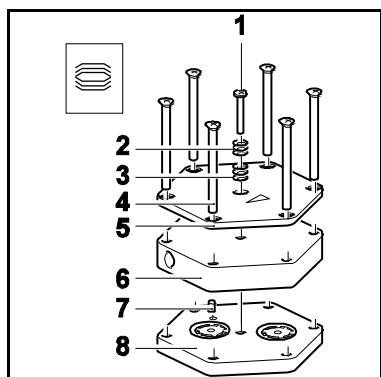

Fig. 24: Refitting pump head
1. For two-headed pumps: On the pneumatic head connection (3), loosen the union nuts (2) by hand. Then slightly loosen the angle-fitting (1) in the pump head (4) by turning it counter-clockwise, so that the connecting tube can be pulled out.
2. Mark the position of top plate (fig. 24/5), head plate (fig. 24/6), intermediate plate (fig. 24/8) and adapter relatively to each other by a drawing line (for two-headed pumps: at both pump heads) with a felt-tip pen (1). This helps to avoid incorrect assembly later.
3. Loosen the outer screws (5) on the pump head/pump heads.
2. Place the intermediate plate (8) with valve plates/sealings on the adapter in accordance with the felt-tip pen marking.
3. Place the head plate (6) on the intermediate plate (8) in the position indicated by the guide pin (7).
4. Place the top plate (5) on the head plate (6) in accordance with the felt-tip pen marking.
5. Gently tighten screws (4) in diagonal order.
6. Insert screw(s) (1) with disk springs (2, 3) in the center of the top plate (5). In doing so, make sure that the disk springs are arranged properly (see fig. 24).
7. Screw in the screw/screws (1) in the centre of the pump top plate (5) until it is flush with the top plate (they are flush with the top plate); then screw one final half turn to tighten.